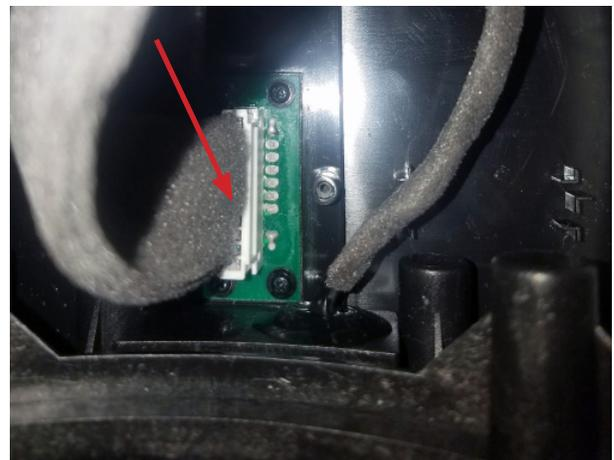

Figure 36
12.2 Remove the harness connector in figure 36 from the Battery PCB.